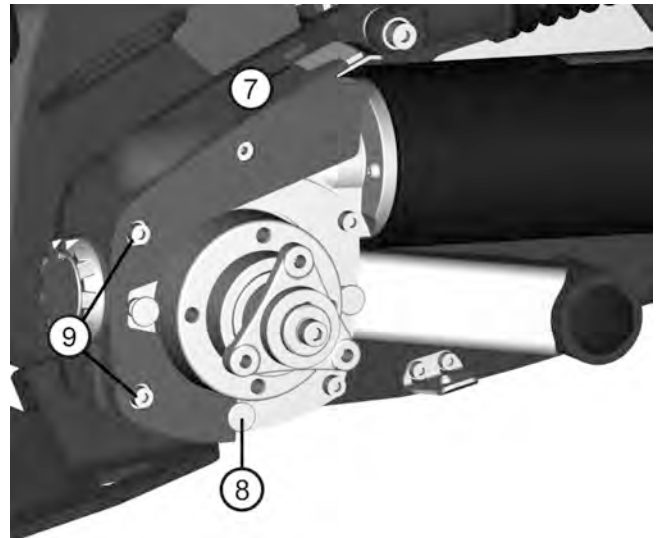

Figure 18. The drive gear cover is assembled with one hook and loop fastener at the top (7) and a fixing point at the bottom (8).
The drive gear cover is assembled with one hook and loop fastener at the top (7) and a fixing point at the bottom (8). See fig. 18.
Position the cover on the drive gear making sure the fixing point (8) is correct positioned in the groove of the cover and that the screw heads (9) are positioned in the recesses of the cover. See fig. 18.